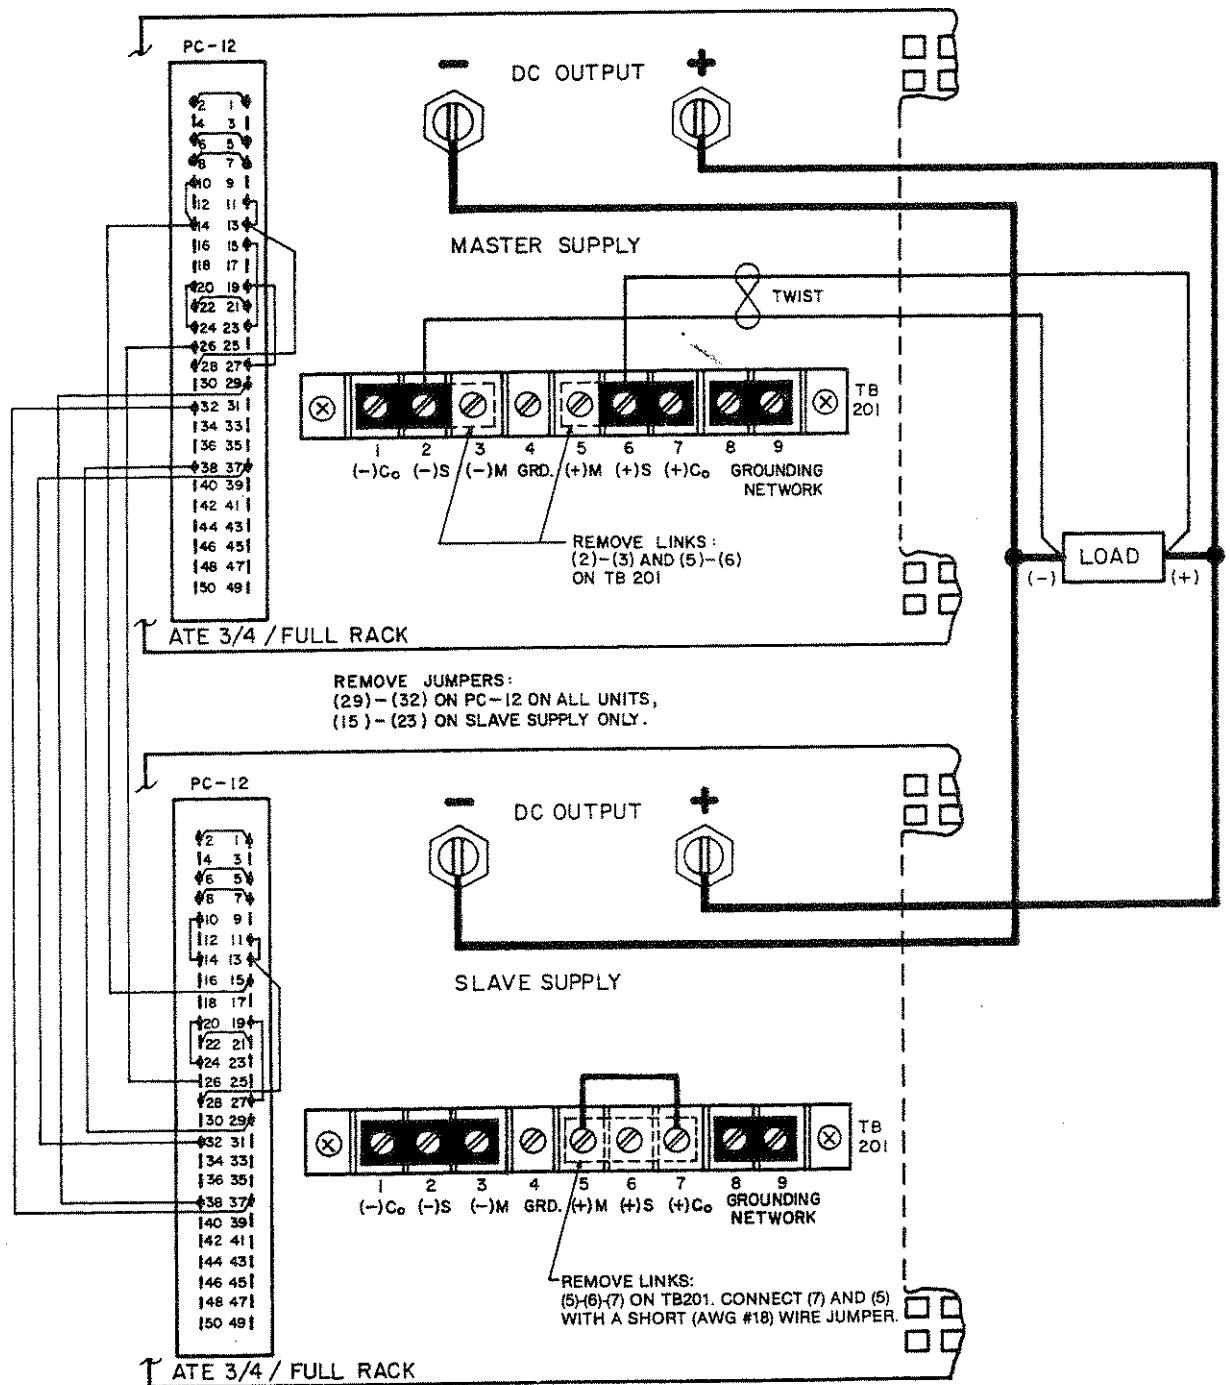

FIG. 3-26 MASTER/SLAVE PARALLEL CONNECTIONS.
- 2) Make all load and sensing connections as shown in FIG. 3-26.